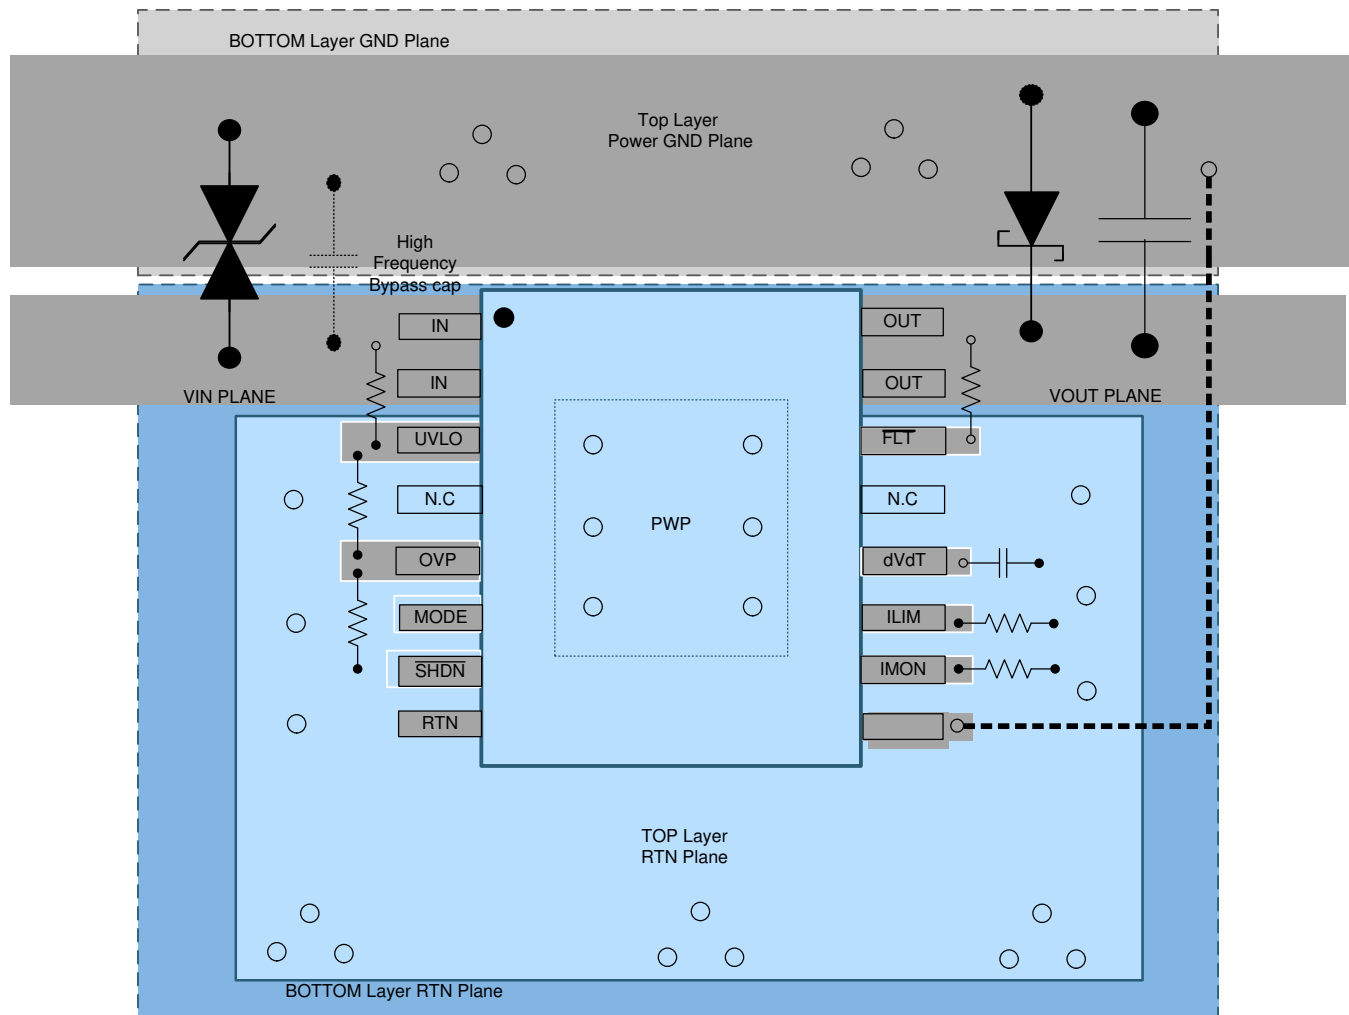

Figure 49. Typical PCB Layout Example With HTSSOP Package With a 2-Layer PCB
- The optimum placement of decoupling capacitor is closest to the IN and GND terminals of the device. Care must be taken to minimize the loop area formed by the bypass-capacitor connection, the IN terminal, and the GND terminal of the device. See Figure 49 for PCB layout example with HTSSOP package.